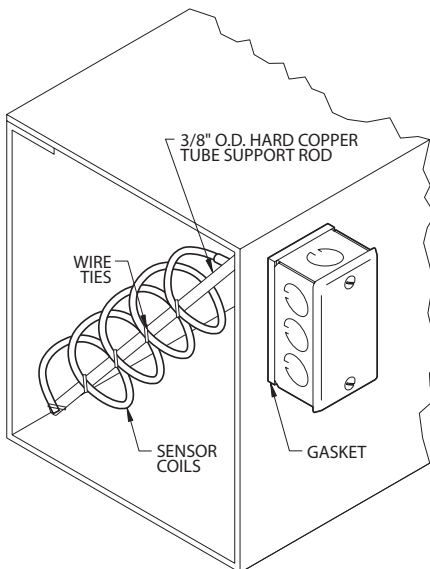

Figure 6: Bendable averaging thermometer, Installation A
4. Installation A uses a 3/8" hard copper tube, or suitable equivalent, as a support rod for the thermometer. Cut the rod to size so its ends can be flattened and tightly set into the duct diagonally as shown in Figure 6. As an option, the support rod can be secured at each end with mounting flanges on the outside of the duct. Expand the coiled thermometer into a spiral and rotate the whole unit to screw the tubing through the hole and into the duct. Be sure to rotate the thermometer and utility box together. Screw the utility box to the duct wall with two #10 sheet metal screws. Attach the sensor coils to the copper support rod with wire ties.